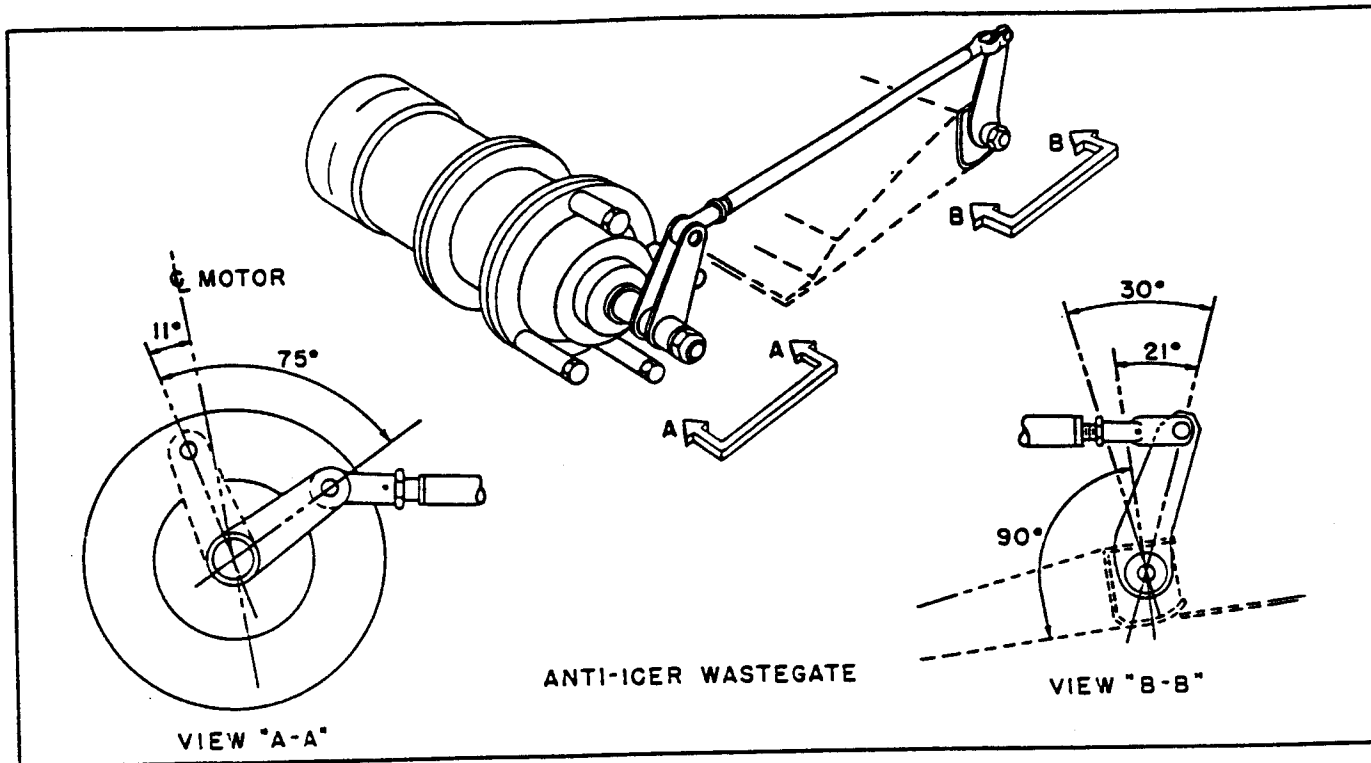

Figure 29. Exhaust Heat Exchanger Wastegate (Anti-icer Wastegate) Mechanism
(10) HEAT EXCHANGERS.- Information pertaining to the various heat exchangers will be found in paragraph 14 a (4) and paragraph 14 c (4).
(11) HEAT EXCHANGER WASTEGATES. (See figures 29, 30, and 31.)- Each pair of turbosuperchargers is provided with a heat exchanger which functions to lower the temperature of the exhaust gas directed against the bucket wheels. This is necessary in order to prevent damage. Cool air enters through a ram duct then flows transversely through a heat exchanger thereby extracting heat from the exhaust gases. Normally this heated air is expelled through a wastegate but if desired may be diverted for use in wing anti-icing.